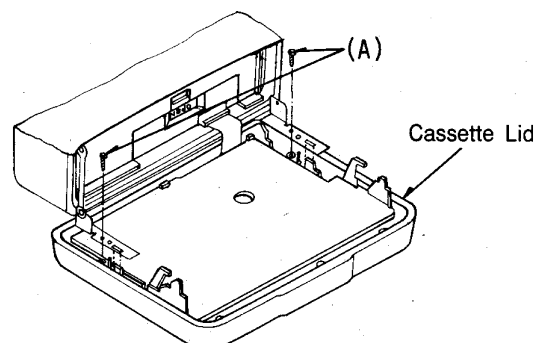

Fig. 2
- Remove the screws (A) (1.4×3.5)mm×2 (See Fig.2)